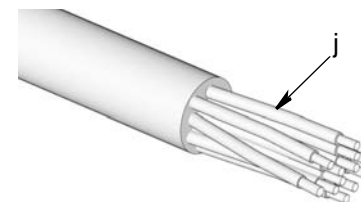

FIG. 15
2. Strip each wire (j) as shown in FIG. 15.